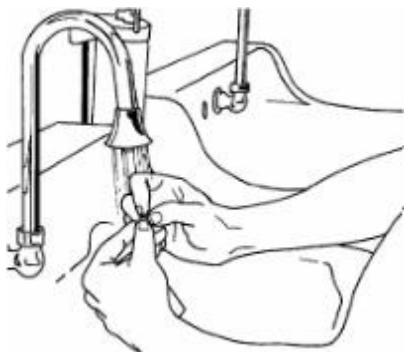

Figure 1-7
(5) Remove the sterile brush and file, moisten brush and work up lather. Soap fingertips and clean the spaces under the fingernails of both hands under running water (see Figure 1-7); discard file.